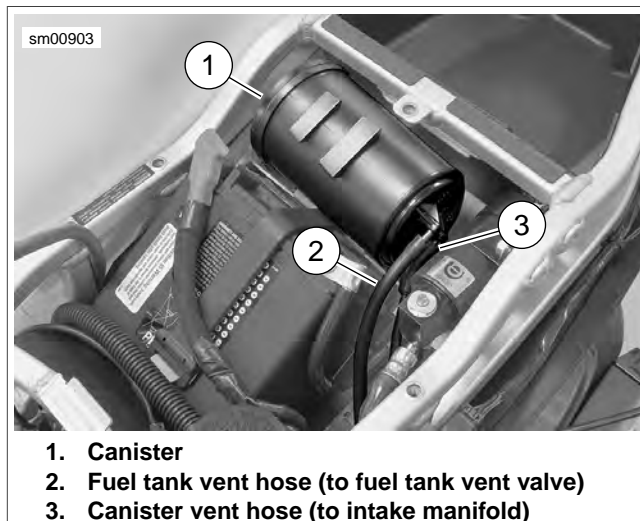

Figure 4-53. Carbon Canister
2. See Figure 4-53. If necessary, label fuel tank vent hose (2) at canister fitting and remove.
2. See Figure 4-53. The canister (1) mounts behind the battery in the tail section.
3. Label and disconnect the fuel tank vent hose (2) and canister vent hose (3) from the canister.